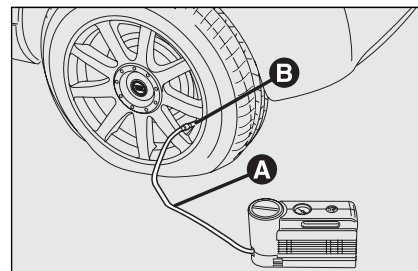

fig. 3
- ☐ **Pull up the handbrake.** Loosen tyre inflation valve cap, take out the filler hose **A-fig. 3** and screw the ring nut **B** on the tyre valve;